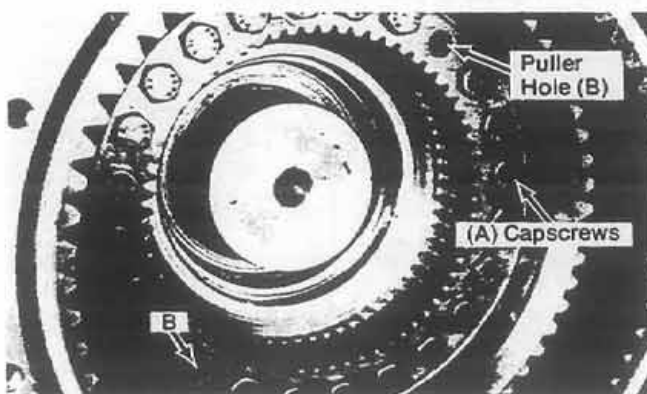

Figure 7:
Step 12. On model K598-00/10 remove the double ring gear at this time if it had not been previously removed (see Step 7, Fig. 7).